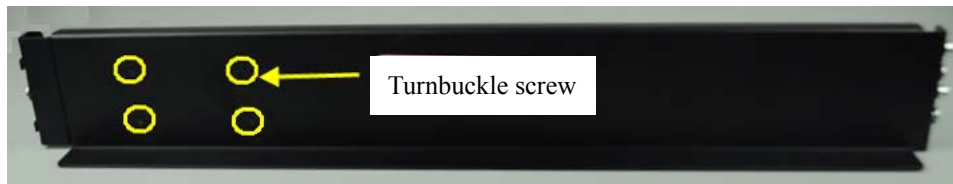

Figure 4-1
1. Length of front and rear rail could extend freely when pulled, in order to guarantee guide rail bearing, a certain friction is required during extension, otherwise, both front and rear rails will become too loose; on the contrary, if too tight, front and rail rails will not be able to extend, it is required to loosen four turnbuckle screws as shown in Figure 4-1 according to situation.